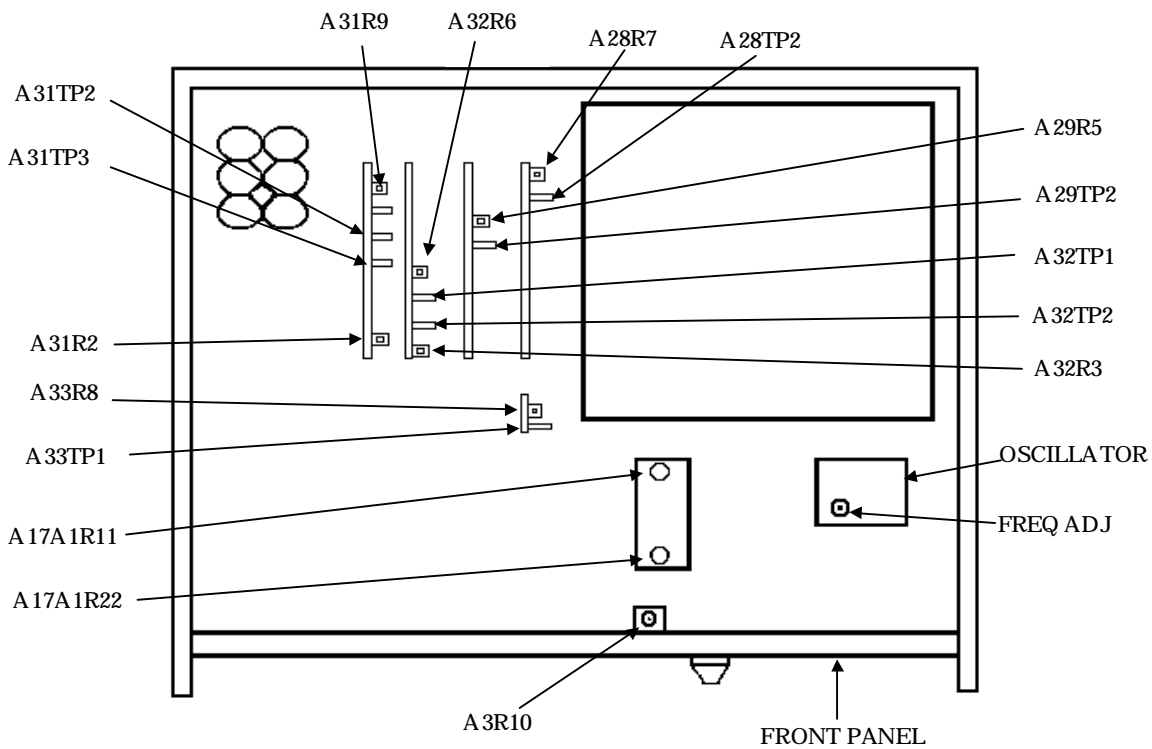

Figure 1. Test instrument - top view.
(1) Connect time/frequency workstation **OUTPUT 1 MHz** to frequency difference meter **REF INPUT**.
(2) Connect TI **10 MHz OUTPUT** (rear panel) to frequency difference meter **SIG INPUT**.
(3) Adjust **FREQ ADJ** (fig. 1) for minimum difference indication on frequency difference meter. Record frequency difference meter indication.
(1) Connect signal generator **RF Output** to TI **INPUT 1 MΩ** using a 50Ω feedthrough termination.
(2) Set signal generator frequency to 100 MHz and level output to -13 dBm.
(3) Press **RESOLUTION Hz** pushbutton to **100** and adjust A3R10 (fig. 1) until a stable count is displayed (R).
- (1) Connect signal generator **RF Output** to TI **INPUT 50Ω**.
- (2) Set signal generator frequency to 100 MHz and level output to -25 dBm.
- (3) Adjust A17A1R22 (fig. 1) fully ccw.
- (4) Adjust A17A1R11 (fig. 1) for a stable indication on TI.
- (5) Decrease signal generator level output and adjust A17A1R11 (fig. 1) until maximum sensitivity is obtained (R).
- (6) Increase signal generator level output for a stable indication. Record signal generator level output indication.
- (7) Adjust A17A1R22 (fig. 1) fully cw. TI will display all zeros.
(8) Increase signal generator level output by 1 dB from level recorded in (6) above and adjust A17A1R22 (fig. 1) ccw until TI display indicates 100 MHz (R).
(9) Verify that sensitivity is at least -32 dBm.